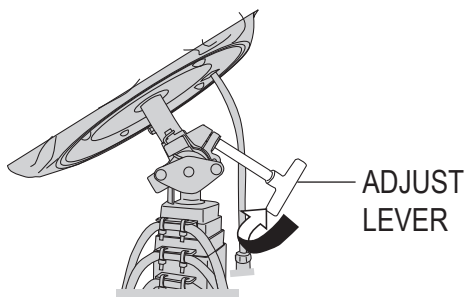

Figure 10. Loosen Adjust Lever
1. Loosen the adjust lever at the bottom of the balloon light assembly (Figure 10).